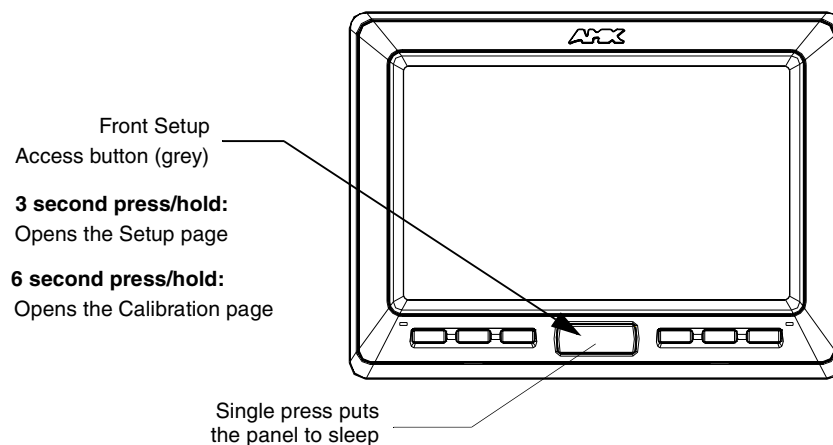
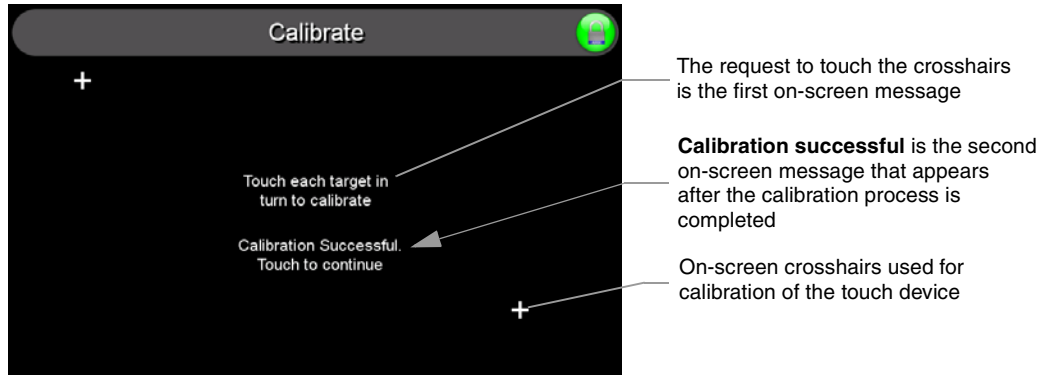

FIG. 27 Location of Front Setup Access button
FIG. 28 Touch Panel Calibration Screens
1. Press and hold the grey Front Setup Access button (FIG. 27) for **6 seconds** to pass-over the Setup page and access the Calibration setup page (FIG. 28).
2. Press the crosshairs (on the Calibration page) to set the calibration points on the LCD (FIG. 28).